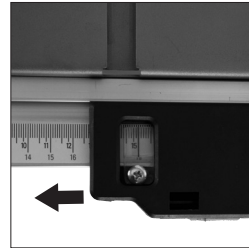

Fig. 13
- Gently move the fence rail to the right or left until the '0' position on the scale coincides with the datum line in the magnifier. (**Fig. 13**)